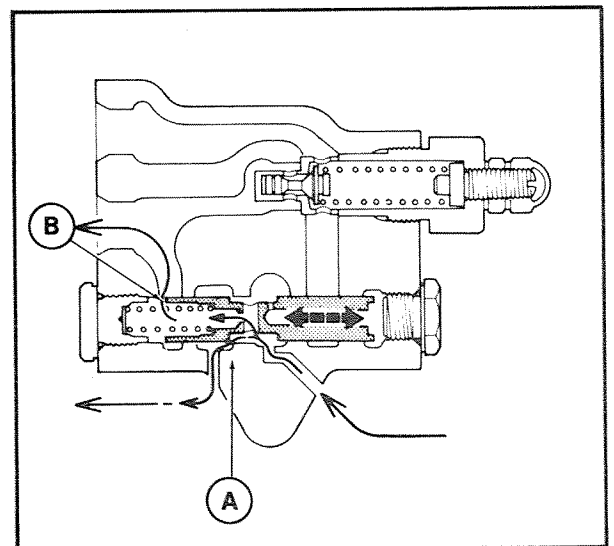

**Figure 17**
**3. Oil flow when the power steering circuit is activated:** When the power steering control valve is actuated and oil flows to the power steering piston, flow is restricted at B and pressure increases in C, Figure 17. Oil and spring pressure moves the plunger to the right. This reduces oil flow to the hydraulic lift A, and increases oil flow to the steering circuit to move the power steering piston. When the power steering piston reaches the end of the stroke, pressure increases in the steering circuit. The increased pressure unseats the relief poppet and excess oil is dumped into the return circuit. (See dotted line, Figure 17.) When pressure at C drops, the plunger moves left to return to controlled flow. When pump output exceeds the capacity of the tractor hydraulic lift circuit, the back pressure unseats the ball poppet in the flow control valve and bypasses oil back through the priority valve to sump.